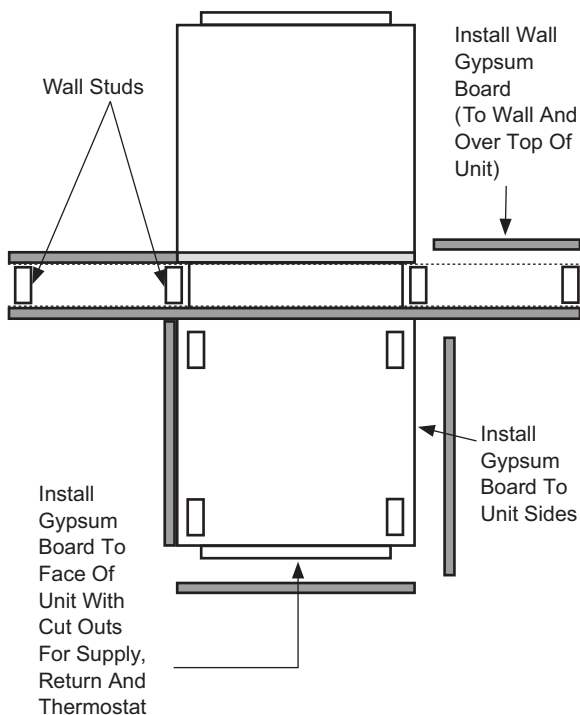

Fig. 17 — 42SJ Unit Installation
- e. Assemble the specified wall construction up to and over the top of the fan coil unit (see Fig. 17).
- f. With the fire-wall separation being complete, the drywall skin on the surface of the individual fan coils can be applied. Drywall can be applied directly to the surface, or, if necessary, studding may be installed on the corners for vertical control (see Fig. 17).
- g. For ease of installation of the access panel, apply drywall on the return-air side directly to the surface of the unit (see Fig. 17). When applying the wall board directly to the unit cabinet, it may be necessary to shim the wall board in some areas to achieve the desired finished wall surface.